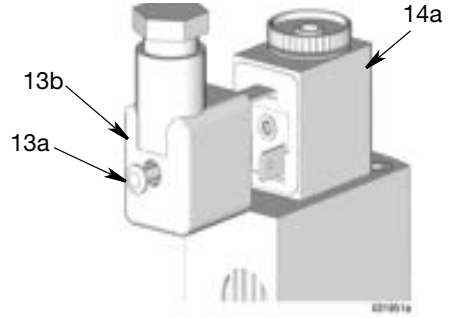

FIG. 40
9. Tighten screw (13a) on back of mini DIN solenoid connector (13b) (FIG. 40).